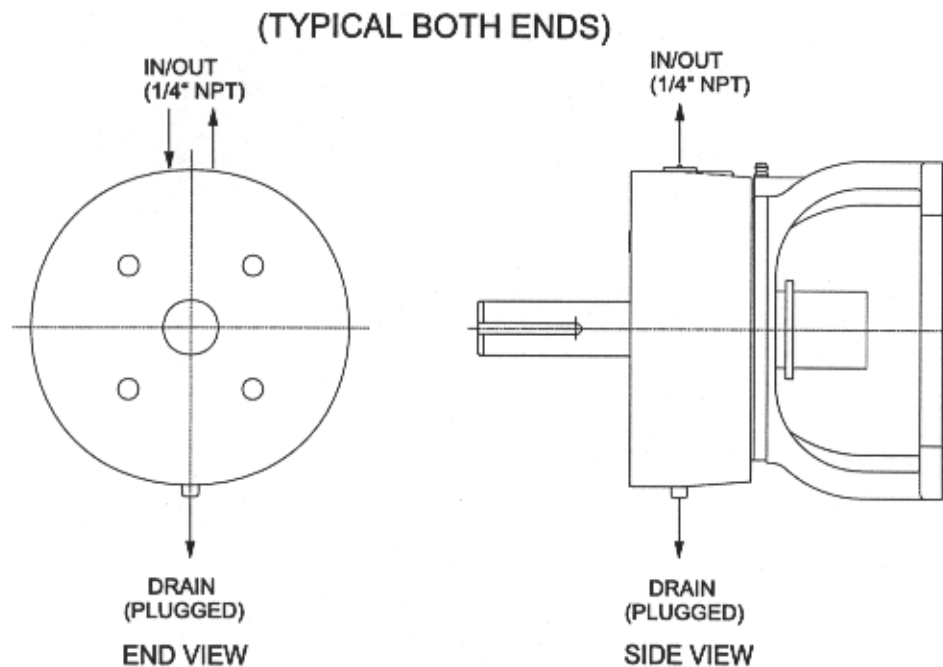

Figure 1. Water Cooling
Pump operating temperature for uncooled bearings should not exceed 230 degrees Fahrenheit (F). Pumps of high temperature construction are provided with cooled bearings with an operating temperature range between 230 and 400 degrees F. Cooling water flows through cavities of the bearing housing and keeps temperature of the bearings within acceptable limits. Refer to Table 1 for cooling flow rates of water temperature of 60 degrees F for bearings. Refer to Figure 1 for typical water cooling setup.